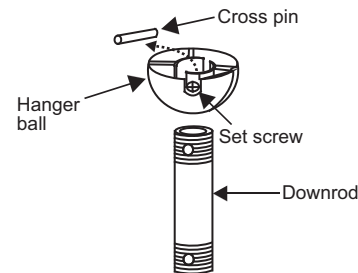

Fig. 7
Step 5. Remove the hanger ball from the downrod assembly by loosening the set screw, unscrewing and removing removing the cross pin and unscrewing the ball off the rod. (Fig. 7)